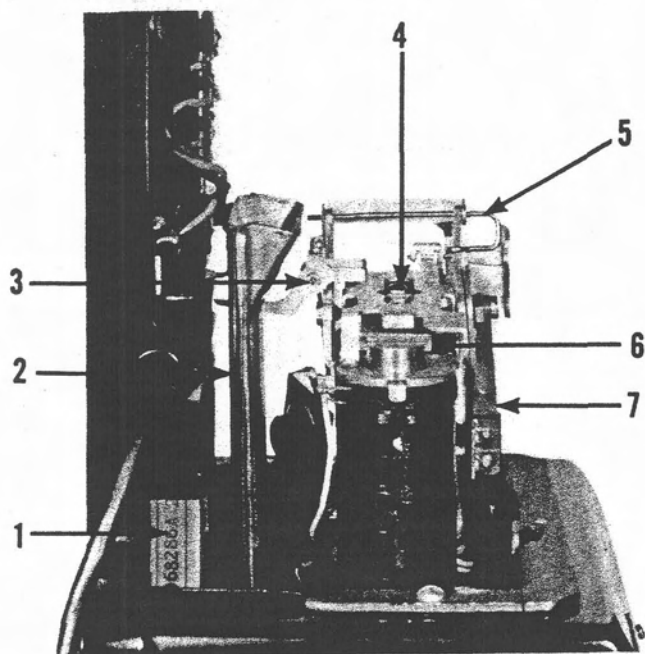
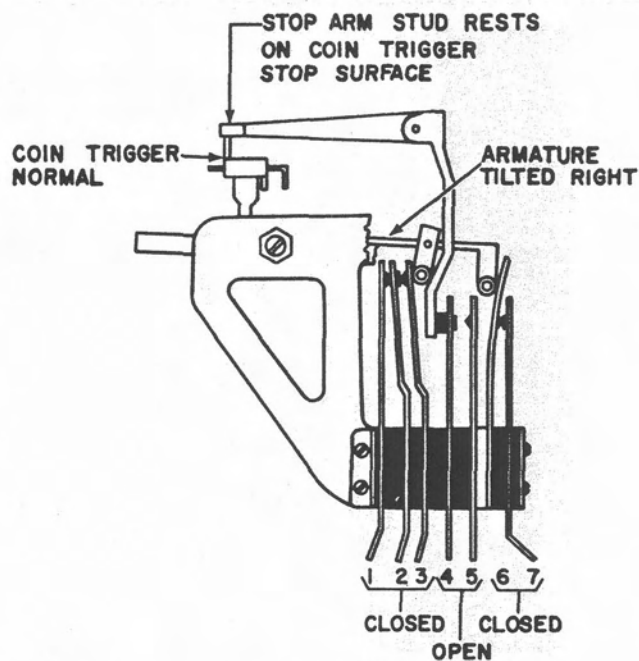

Figure 7. Coin relay installed in lower housing.
Figure 10. Coin relay - paystation after called party answers.
3.4 Coin relay description. Figures 7, 8, and 9 show the coin relay in its normal condition. Two coils mount vertically on the base - one coil with a 2900/77-ohm winding, and one with an 83-ohm operate winding. The 77- and 83-ohm windings are connected in series. The
armature pivots in the center and has a permanent magnet attached to the underside. The right hand side of the armature terminates in two pairs of roller-type buffers, which engage the lineswitch when the armature tilts to the right. One pair of roller-buffers pivots on the armature on a swinging arm. The switch lever pivots on the relay frame as shown in figure 10.
The vertical portion of the switch lever forms a cam-like surface, forcing the pivoted roller buffer to the left or right, engaging lineswitch springs 3 or 4 selectively, depending upon the position of the coin trigger (figures 10 and 11). The coin trigger is counter-balanced on its pivot to restore by itself when tripped. The coin trigger arm extends through slots in the front and rear walls of the coin hopper (figure 7), so that it must be tripped each time a coin passes through the hopper.
(b) When the called party answers, the connector reverses line polarity on the calling line, reversing flow of current through the coin control mechanism. The coin relay armature is attracted to the right (figure 10). Armature roller-buffers engage lineswitch springs 3 and 6, closing contacts 1-2-3 and 6-7. The shunting contacts 1-2-3 shunt the receiver and short-circuit the transmitter. The caller cannot be heard, although the called party may be faintly heard. Restoring contacts 6-7 in closing, prepare for restoring of the coin relay at the end of the call, but do nothing at this time. Current now flows through L1, hookswitch "X" contacts, rectifier paralleling 78-ohm magnet, 77-
(b) Tilt armature to left and replace handset, coin trigger normal. Apply voltage to plus (+) side of line. Armature should remain tilted to left. If armature tilts to right, move armature nearer to left pole piece by means of adjusting screws (figure 7).
If armature requires adjustment, loosen adjusting screws (figure 7), and move armature slightly to right.